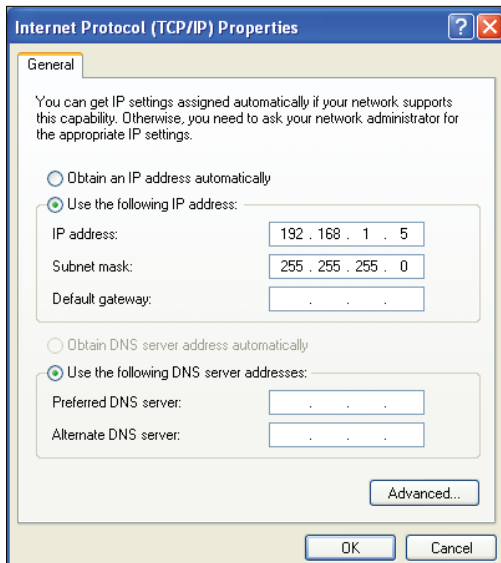

Figure 32: Internet Protocol Properties Window
7. Select the radio button in front of **Use the following IP address** (**Figure 32**) and write down the current defaults so that you can re-enter them when you finish configuring the PT-Link II and then type in the following information: